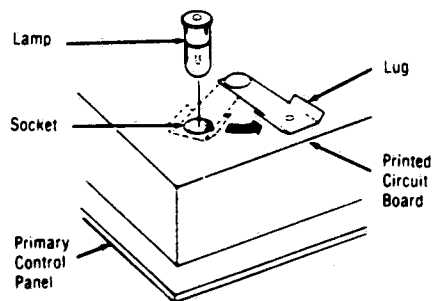

Figure 7-20. LAMP REPLACEMENT.
4. Carefully swing the lug away from the base of the lamp to be changed and remove the lamp (see Figure 7-20).
7. To replace a lamp, turn the panel over. Rotate the lug (see Figure 7-20) and lift out the bulb. Reverse the procedure and install a new one.